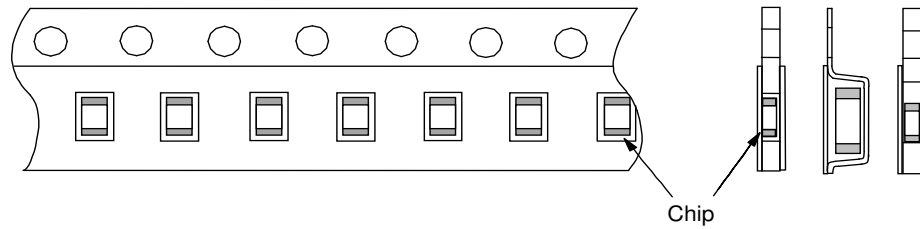

Fig.2 Dimensions of Reel
| 17 | Beam Load Test | Destruction value should be exceed following one. < Chip L dimension : 2.5mm max. > Chip thickness > 0.5mm rank : 20N Chip thickness ≤ 0.5mm rank : 8N < Chip L dimension : 3.2mm min. > Chip thickness < 1.25mm rank : 15N Chip thickness ≥ 1.25mm rank : 54.5N | | Place the capacitor in the beam load fixture as Fig 2. Apply a force. < Chip Length : 2.5mm max. >  < Chip Length : 3.2mm min. >  Fig.2 Speed supplied the Stress Load : 0.5mm / sec. | | | | | | | | | | | | |
1.11 Reel is made by resin and appeaser and dimension is shown in Fig 2.